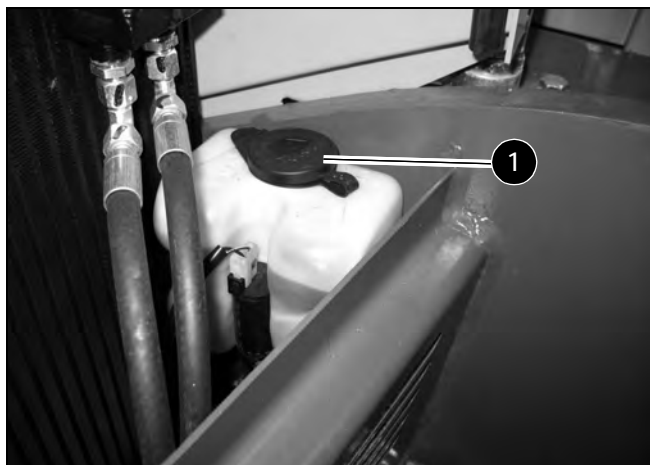

Figure 4-22 Windshield Washer Fluid Reservoir
3. Locate the windshield washer reservoir (Figure 4-22), in front of the radiator.
4. Open the windshield washer reservoir cover (1, Figure 4-22) and fill the tank with windshield washer fluid.